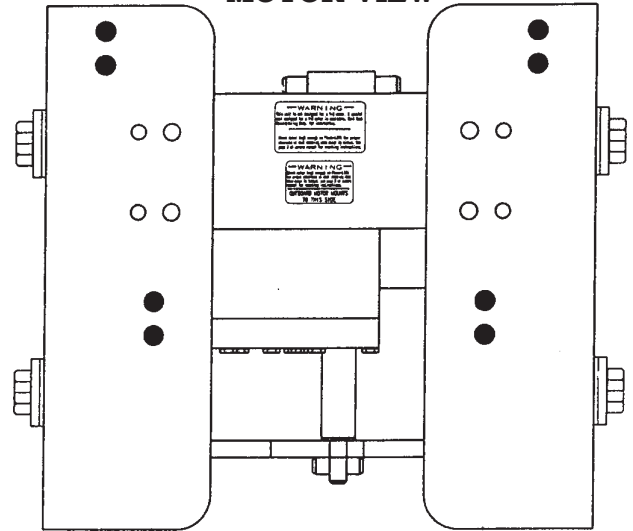
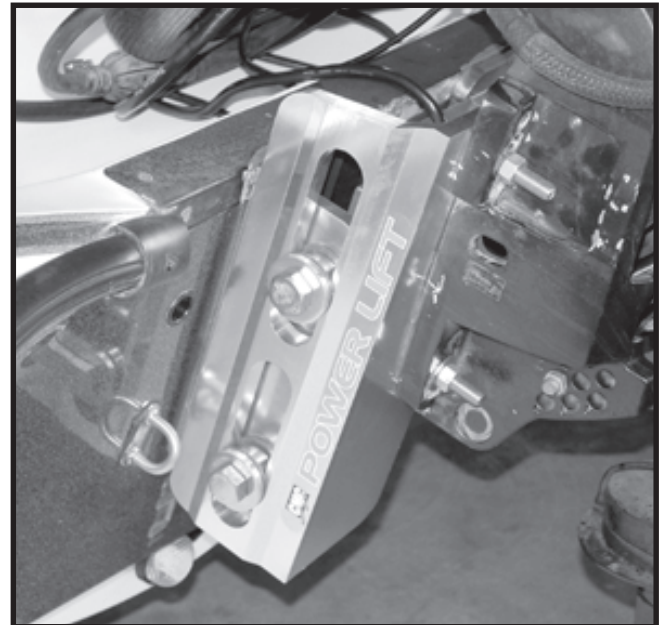

FIG. 13
FIG. 14
Upper and Lower B.I.A. Standard Mounting (Fig. 13)
Step 7: If your motor has the B.I.A. Standard Mounting holes, mount your motor to the Power-Lift using the four predrilled upper **or** lower mounting (see Fig. 13) and the 1/2"-13 x 3 bolt, 1/2" - 13 hex nuts, flat and lock washers furnished. (Fig. 14)